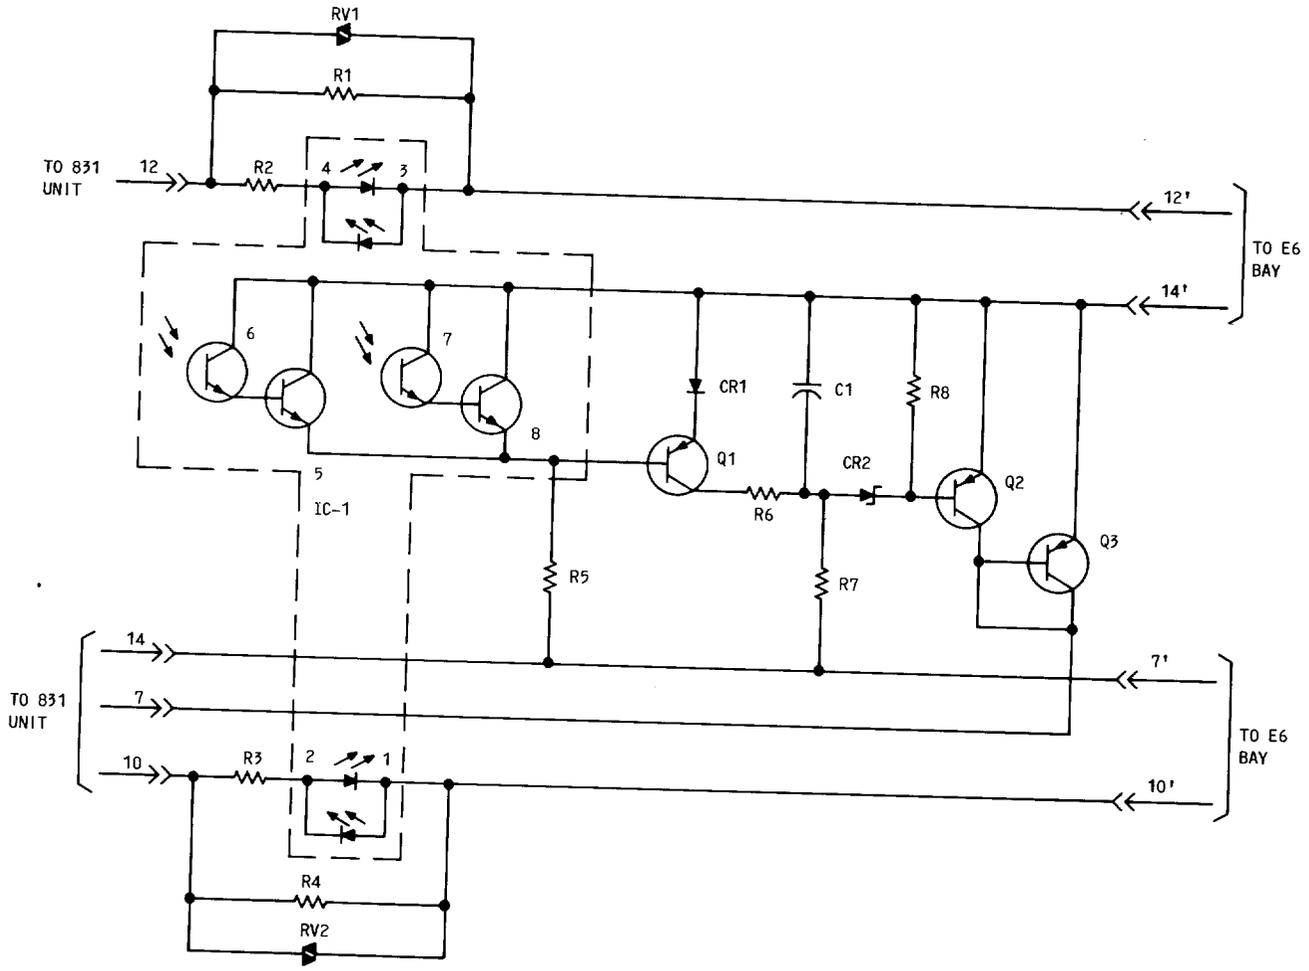

Fig. 3—Schematic Diagram of E6 Solid-State Disabler
2.04 The delay circuitry eliminates the possibility of the E6 being enabled by noise spikes. The optical isolators must remain switched on for 375 milliseconds before the output switch energizes the repeater. The delay circuitry is reset each time the line current goes to zero, thereby keeping the repeater disabled during dial pulse sequences or continuous noise. A schematic diagram of the solid-state disabler is shown in Fig. 3.